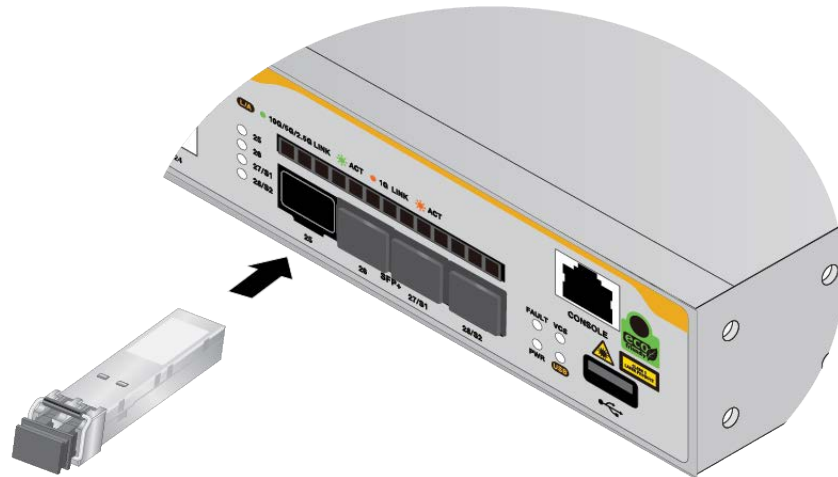

Figure 71. Installing SFP+ Transceivers
4. Slide the transceiver into the port until it clicks into place, as shown in Figure 71 on page 108.